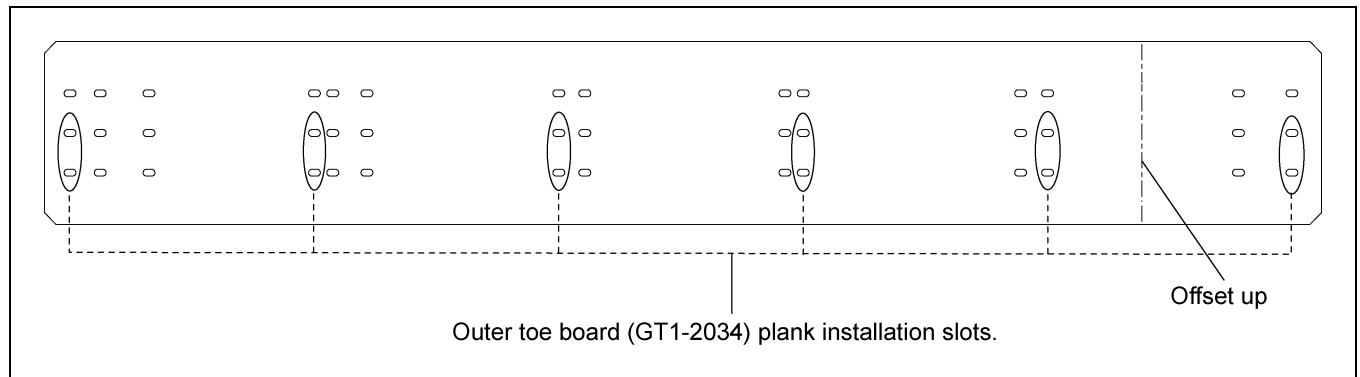

Figure 4S 18' Outer Toe Board (GT1-2034)
3. Outer toe board (GT1-2034) is aligned and attached to the planks with the corresponding slots as shown in Figure 4S.